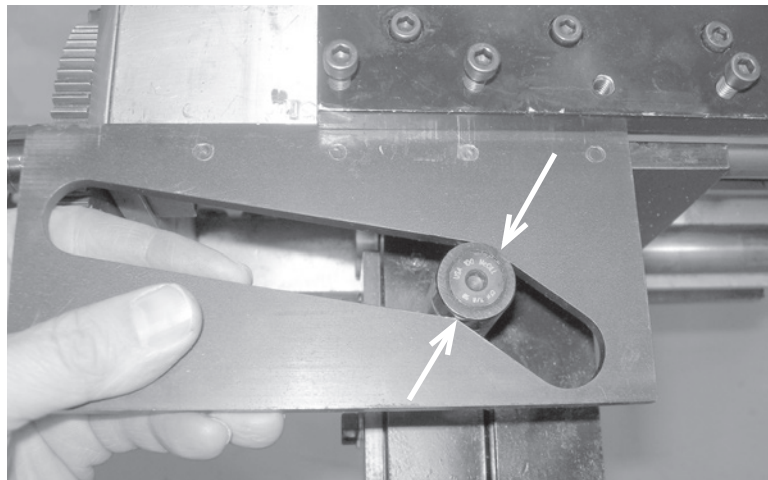

Figure 3-44. Insert the template on the cam follower so that the wheel is at the transition point of the bevel.
2. Place the templates with their slots over the cam follower posts as shown in Figure 3-44. Position the templates so that the cam follower wheel is near the end of the template slot away from the center of the pipe.
2. Place the templates with their slots over the cam follower posts as shown in Figure 3-44. Position the templates so that the cam follower wheel is at the transition point of the template.